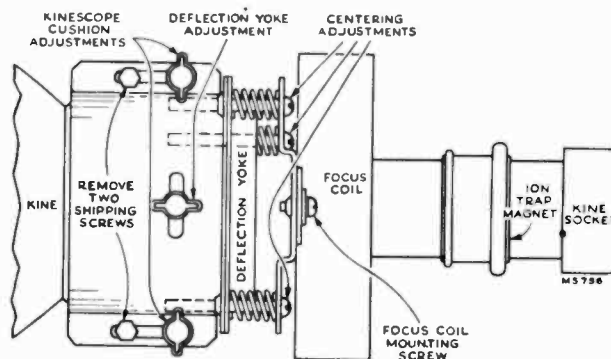

Figure 3—Yoke and Focus Coil Adjustments
**REMOVE THE TWO SELF-TAPPING SCREWS FROM THE KINESCOPE CUSHION SLIDE AS SHOWN IN FIGURE 3.**
**CENTERING ADJUSTMENTS.**— Centering is obtained by adjustment of the centering controls and by mechanically orienting the focus coil with three adjustment screws shown in Figure 3. The focus coil should be concentric around the neck of the kinescope to prevent curvature of the raster.
**FOCUS COIL ADJUSTMENTS.**— If, after making the centering adjustments in the above paragraph, a corner of the picture is shadowed, it will be necessary to loosen the focus coil mounting screws (shown in Figure 3) and change the position of the coil to eliminate the shadow. Re-center the picture by adjustment of the electrical centering controls and the focus coil centering adjustments.
**CAUTION.**— The ion trap magnet employed for 16AP4 kinescopes is not the same as that used on 10BP4 tubes. Care should be taken to insure that the proper magnet supplied with the instrument is used. The type magnet shown in Figure 3 measures three fourths of an inch between magnet center lines and carries the number 986432-1 stamped on it.